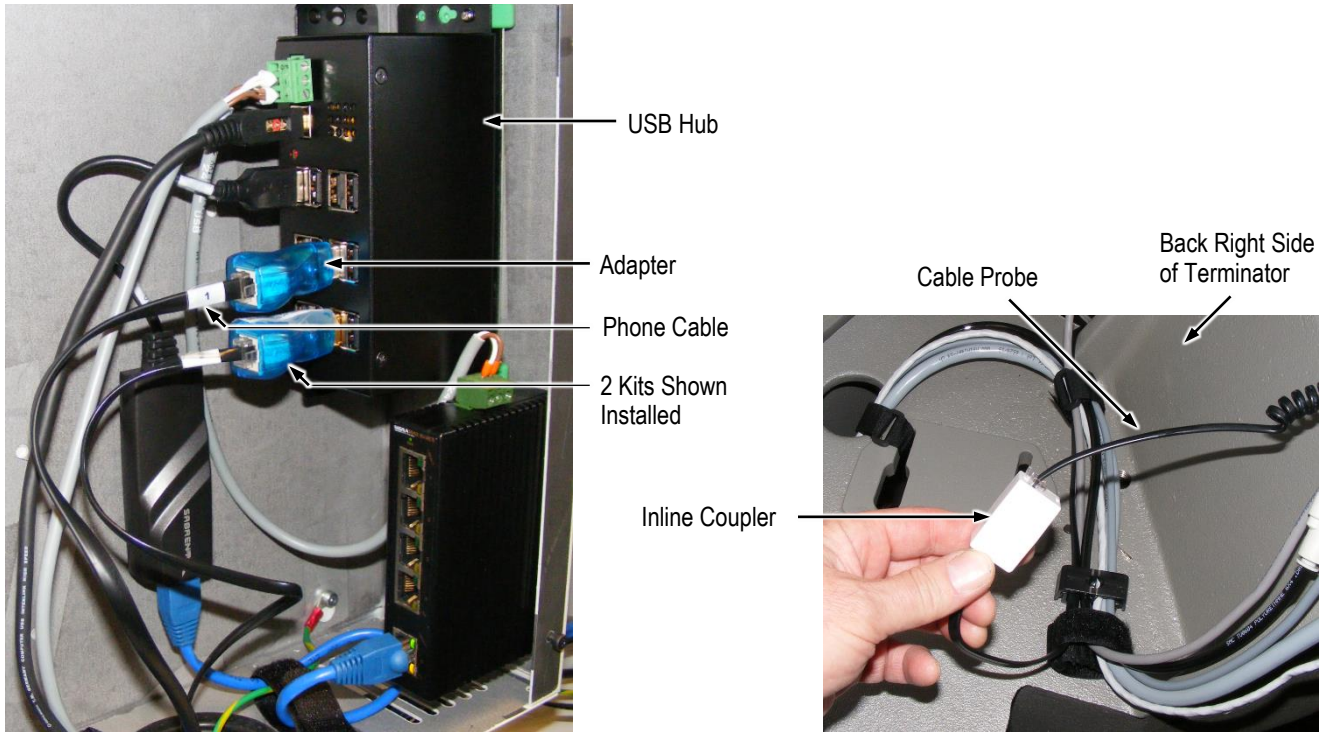

Figure 11
3. Connect the phone cable to the adapter, and then to the USB hub. See Figure 11.
4. Connect the cable probe to the phone cable using the inline coupler. See Figure 11.